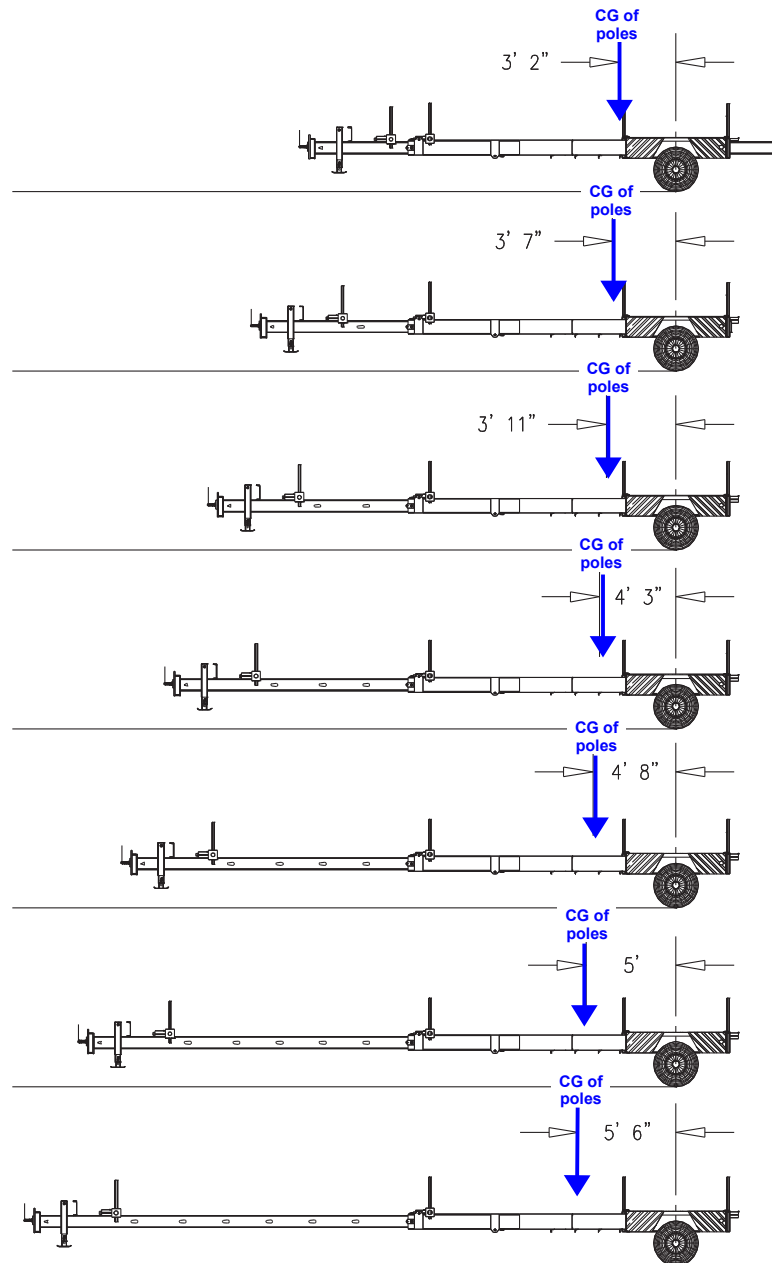

Figure 1
2. When fully retracted, the center of gravity (CG) of the empty trailer is about 5 feet in front of the axle. With each interval of extension, the CG moves 4" to 5" more, forward of the axle.
3. To maintain 15% tongue load, the CG of poles carried on the trailer should be centered **at or in front of** the CG of the empty trailer. See Figure 1.
- (a) Place the CG of the pole the distance in front of the axle at least as much shown in Figure 1, below, and then adjust the tongue length so that the butt end of the pole is extending forward the front bolster the appropriate amount. (See Section E, below for details about the placement of the butt end.)
- Figure 1 shows the distance a pole, or load of poles, center of gravity (CG) should be placed in front of the axle to maintain at least a 15% tongue weight for the seven possible lengths of a CZ trailer.